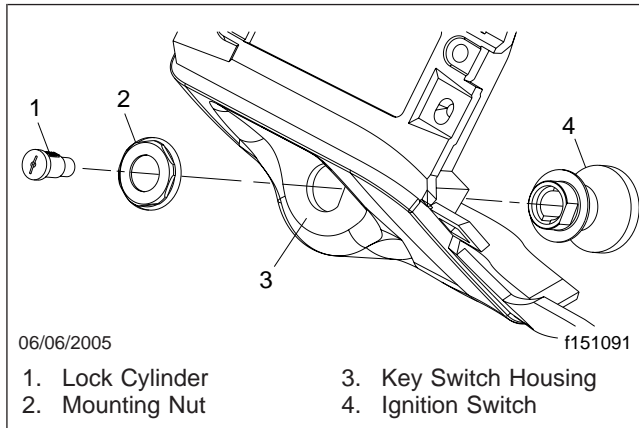

Fig. 2, Ignition Switch Replacement
3. Remove the ignition switch mounting nut. See Fig. 2.